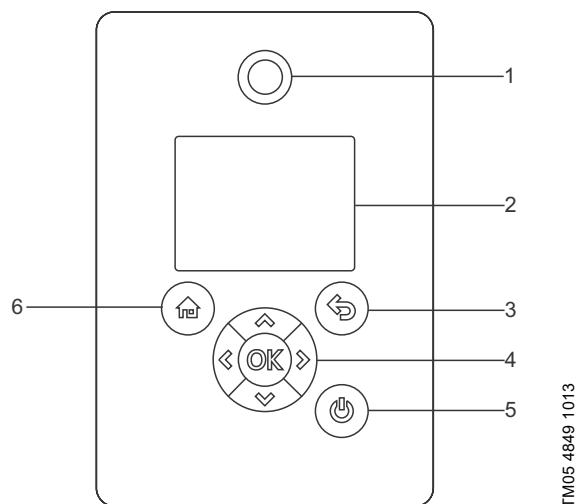

Fig. 46 Grundfos Eye
The operating condition of the motor is indicated by Grundfos Eye on the control panel. See fig. 46 (1).